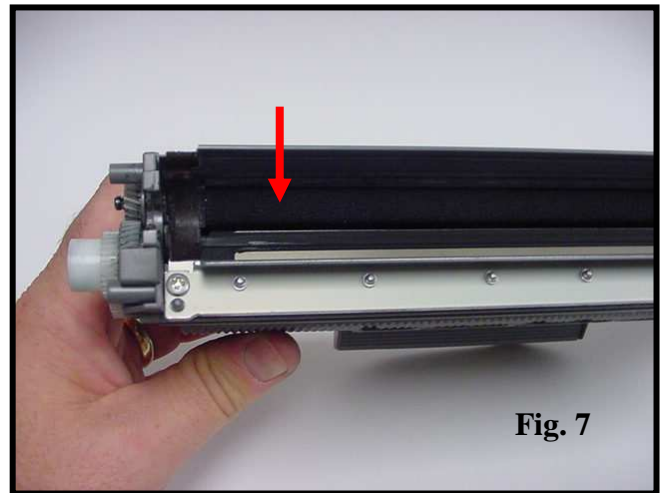

Fig. 7
7. Clean the foam delivery roller thoroughly with compressed air (Fig. 7). It is very important to clean the roller of all remaining toner. Failure to do so will result in back grounding when the new toner is added to the hopper.